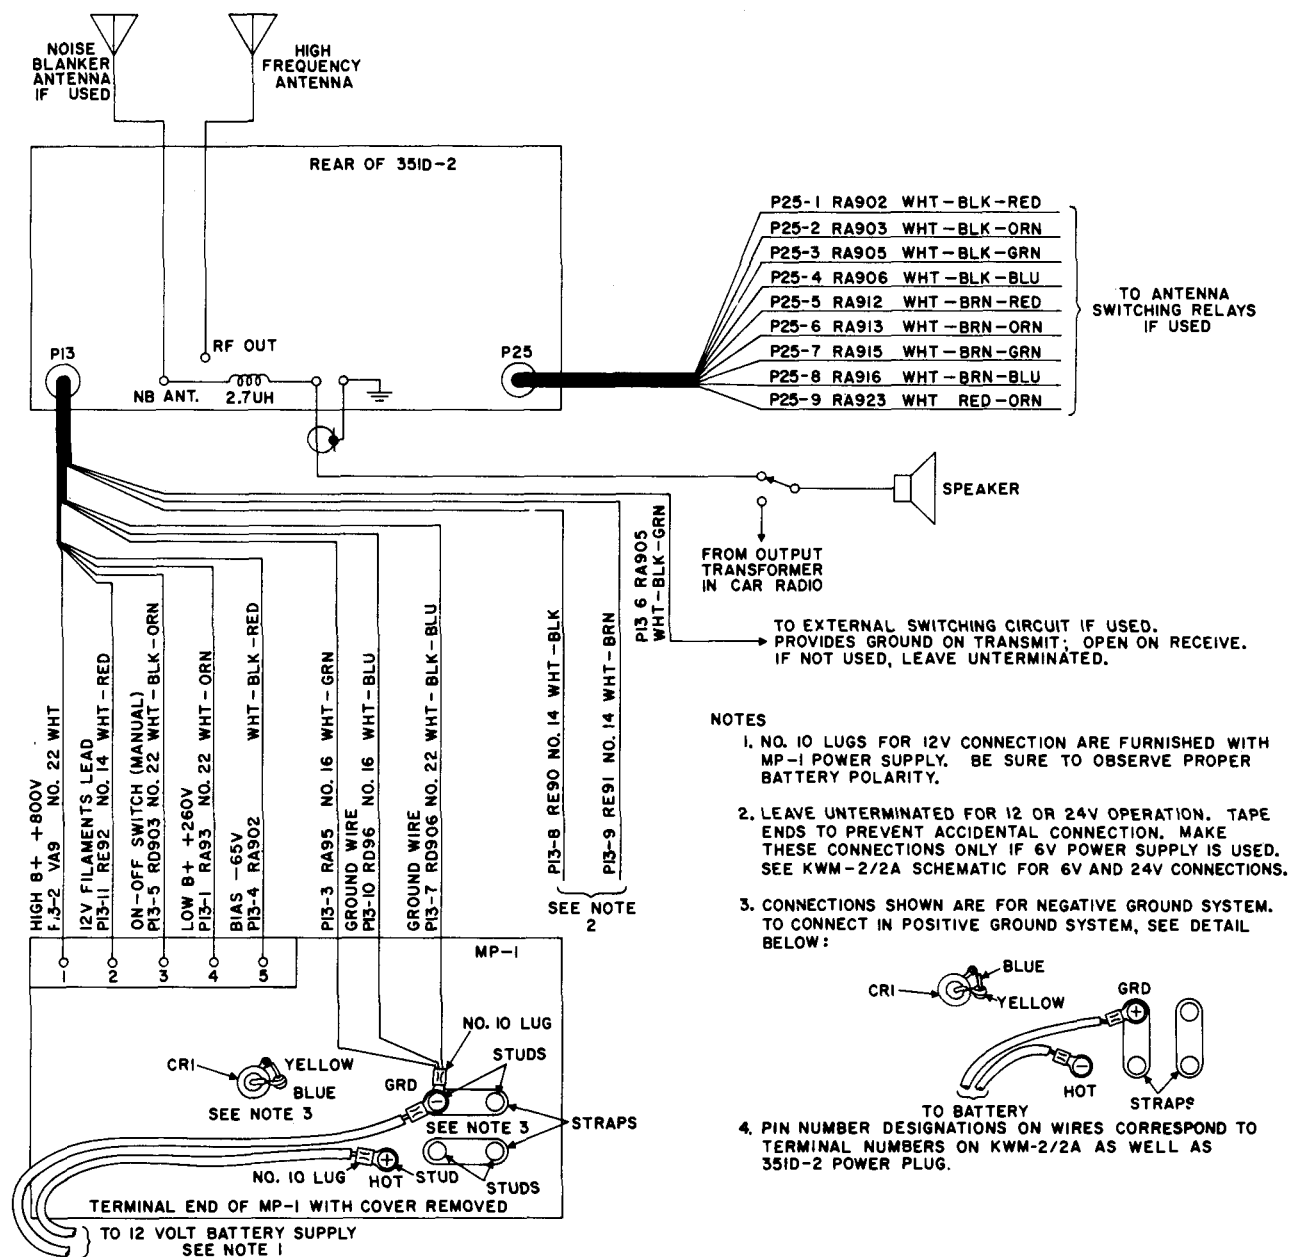

Figure 7-8. Collins MP-1, Collins KWM-2/2A, and Collins 351D-2, mobile interconnection diagram.
b. Determine the necessary length of power cable to connect the Collins MP-1 to the equipment which it is to operate. If the power supply is to provide voltages for the Collins KWM-2/2A and the Collins 351D-2, cut the required length of cable from the cable furnished with the mount. Attach the necessary solder lugs to the loose end of the cable for connection to the terminal board of the Collins MP-1. Five No. 6 lugs are supplied with the power supply (para 7-21). Figure 7-8 shows proper power supply interconnections to the Collins KWM-2/2A and 351D-2 combinations.
c. Remove the cover from the Collins MP-1, and make connections to the terminal board (fig. 7-8). Two lengths of No. 10 wire are furnished with the Collins 351D-2 for connection between the power supply and battery. Cut these wires to the required length, and fit